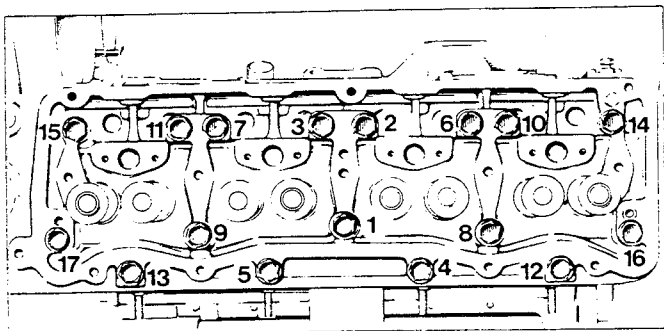

FIG. 22 - BOLT TIGHTENING SEQUENCE (4 Cyl.)
**TO TIGHTEN CYLINDER HEAD BOLTS:** Start and run engine until normal operating temperature is reached. Stop engine. Remove rocker arm cover from top of engine. Tighten cylinder head bolts in sequence as shown in figures 22 and 23 to a torque of 105 to 110 ft/lbs., engine hot. (130-135 ft/lbs. for turbo models). Check valve clearances before replacing rocker arm cover.